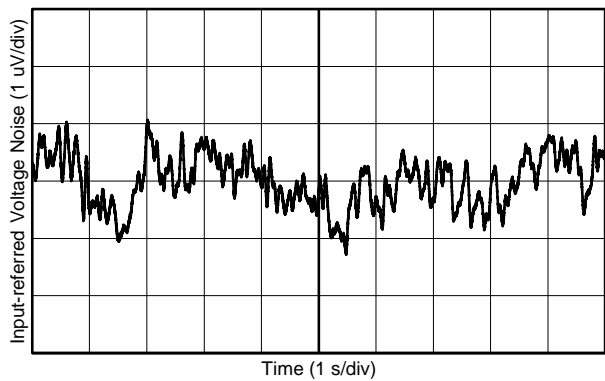

Figure 12. 0.1-Hz to 10-Hz Noise
0.1-Hz to 10-Hz Noise	<a href="#">Figure 12</a>